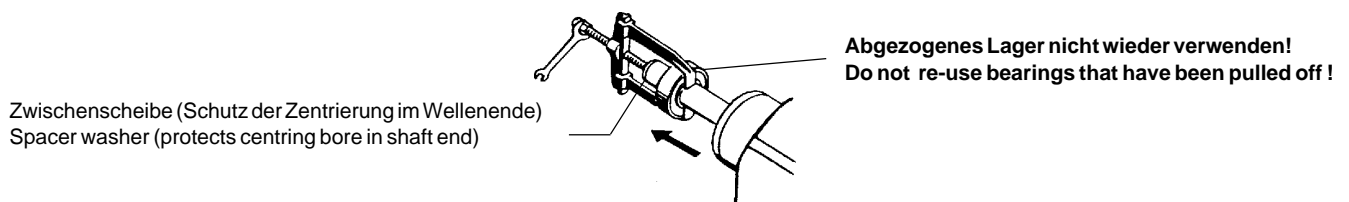

Fig. 106.2 Lagerwechsel / Changing bearings
- Pull off D-end bearing (1.60) and sleeve (1.41) with suitable tool (see Fig. 106.2), heat sleeve to approx. 180°C to reduce the effect of the adhesive